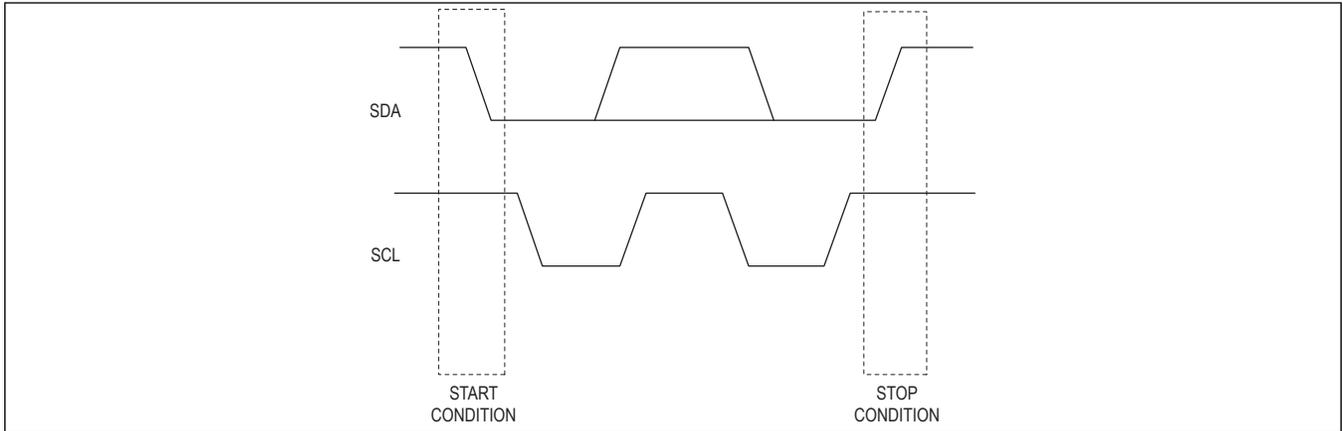

Figure 22. I2C START and STOP Conditions
Both SCL and SDA remain high when the bus is not busy. The master signals the beginning of a transmission with a START (S) condition by transitioning SDA from high to low while SCL is high. When the master has finished communicating with the IC, it issues a STOP (P) condition by transitioning SDA from low to high while SCL is high. The bus is then free for another transmission (Figure 22). Both START and STOP conditions are generated by the bus master.